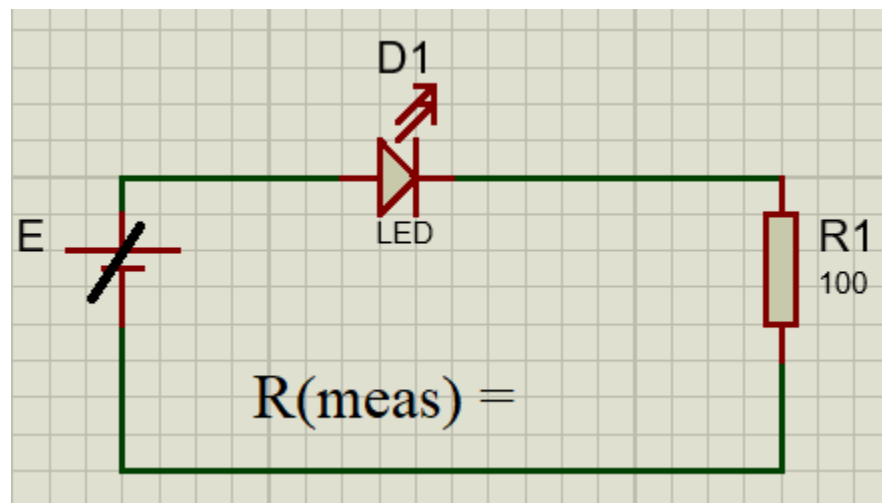

Figure 7.1
- Construct the circuit of Fig. 7.1. Initially, set the supply to 0 V and record the measured value of the resistor R.